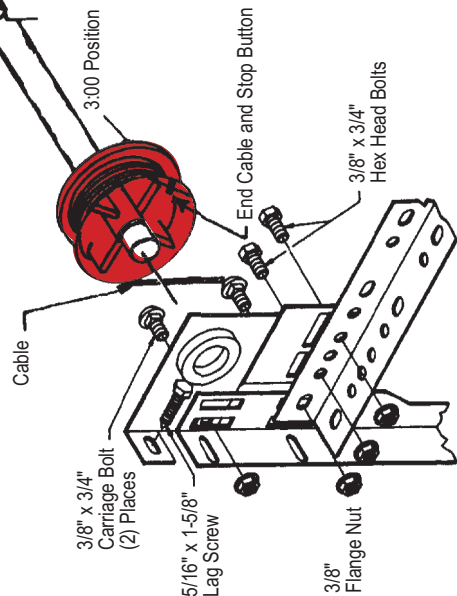

Fig. TOR-2
NOTE: You need an assistant in Step 4. If your garage has only one entrance, be sure you, the assistant, and the tools you need are inside before you lock the door. Your door will have either one or two torsion springs. Each torsion spring consists of spring coils, stationary cone, and a winding cone (Fig. TOR-2). Some springs will have the wire diameter, spring diameter, spring length, and direction of wind stenciled on the coils. The winding cone is color coded separately, either red or black (Fig. TOR-3). The color on the winding cone is to help identify on which side of the door the spring is to be used.
The cable that is attached to each bottom bracket is brought up between the wall and roller shafts to the cable drum. This cable is placed in the notch on the cable drum. Turning the cable drum and sliding it up tight against the end bearing plate removes the cable slack. Make sure the cable follows the grooves in the cable drum. The set screws on the cable drum should be tightened with a 3/8" box wrench while holding the cable taut. Locking pliers clamped to the torsion spring tube maintain tension on the cable (Fig. TOR-2). This procedure should be repeated on the opposite side.
The stenciled description can be used as a straight line to indicate the number of turns on the spring(s). If there is no straight line present, make one with a piece of chalk. After inserting the two winding bars all the way into the winding cone, wind the springs 1/4 turn at a time in an upward direction as shown in Fig. TOR-5. The number of turns is shown in the table in Fig. TOR-2. The tail of the torsion spring coil points in the direction that the spring is wound (Fig. TOR-5A).
**TIP:** The balance of the door may differ slightly depending on whether galvanized or oil-tempered springs are provided. If galvanized springs are provided, the initial balance of the door may appear slightly "hot" (door drifts upward) with the turns specified in the table in Fig. TOR-2. The spring(s) will self adjust and relax slightly, resulting in a balanced door within a few weeks of normal operation. To accelerate this effect at the time of installation, proceed to wind the spring two extra full turns past the number of turns shown in the table in Fig. TOR-2. Next, carefully unwind the two extra full turns until the spring(s) equal the number of turns in the table.